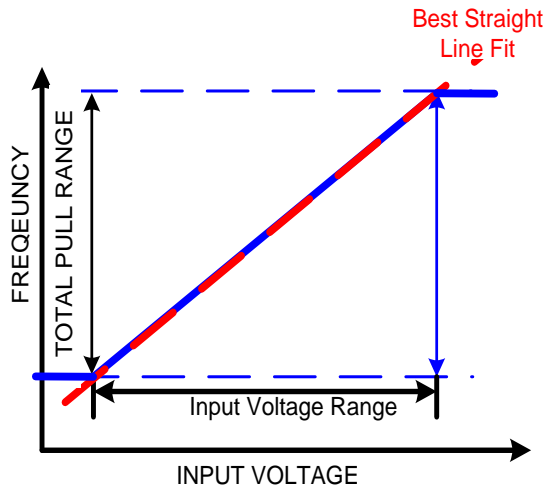

Figure 35. Typical KDS VCTC-MO Linearity
In any VCTC-MO, there will be some deviation of the frequency-voltage (FV) characteristic from an ideal straight line. Linearity is the ratio of this maximum deviation to the total pull range, expressed as a percentage. Figure 35 below shows the typical pull linearity of a KDS VCTC-MO. The linearity is excellent (1% maximum) relative to most quartz offerings because the frequency pulling is achieved with a PLL rather than varactor diodes.